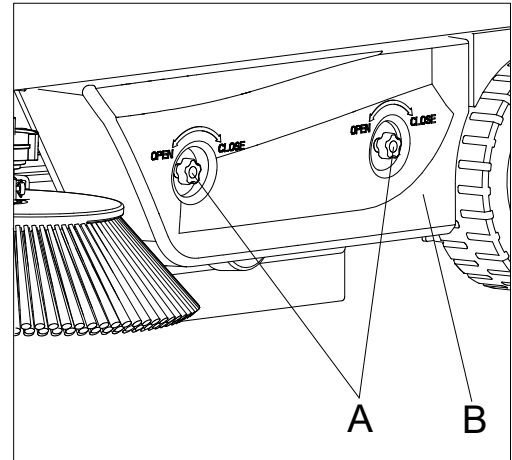

Figure 22
3. Unscrew the knobs (A, Figure 22) and remove the left cover (B, Figure 22).
13. Install the left cover (B, Figure 22) by tightening the knobs (A, Figure 22).
4. Unscrew the knobs (A, Figure 22) and remove the left cover (B, Figure 22).